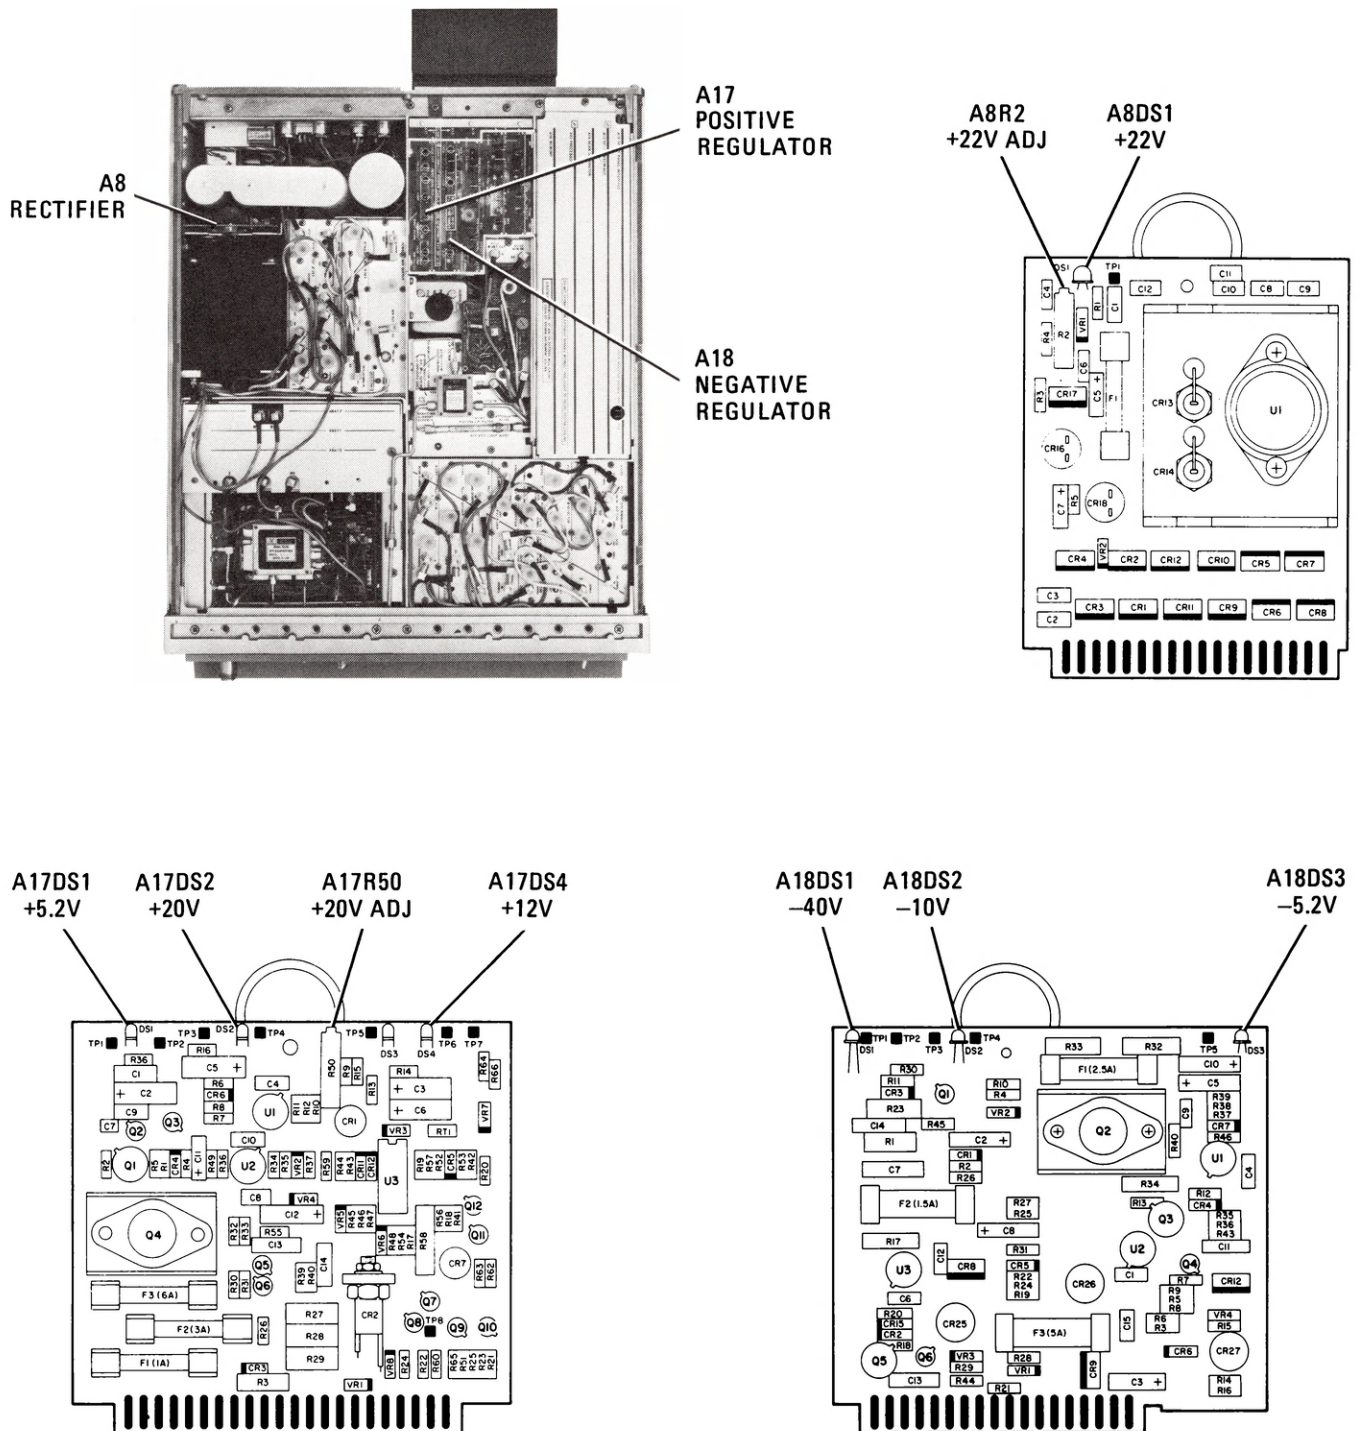

Figure 5-3. Location of RF Section Low Voltage Adjustments
12. Adjust A8R2 +22V ADJ for DVM indication of $+22.000 \pm 0.020$ Vdc. Location of adjustment is shown in Figure 5-3.